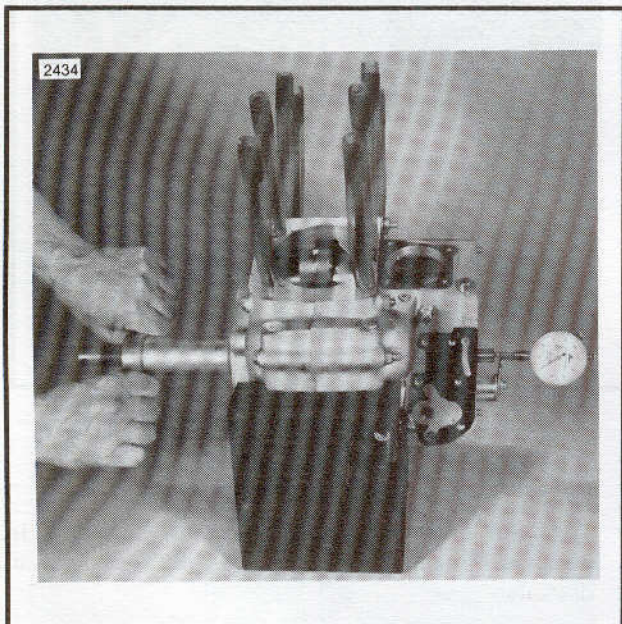

Figure 3-50. Check Flywheel End Play
ADJUSTMENT – Flywheel End Play (Figure 3-50)
9. See Figure 3-50. Check exact amount of flywheel end play with dial indicator as directed at the beginning of this section to determine if within specified limits.